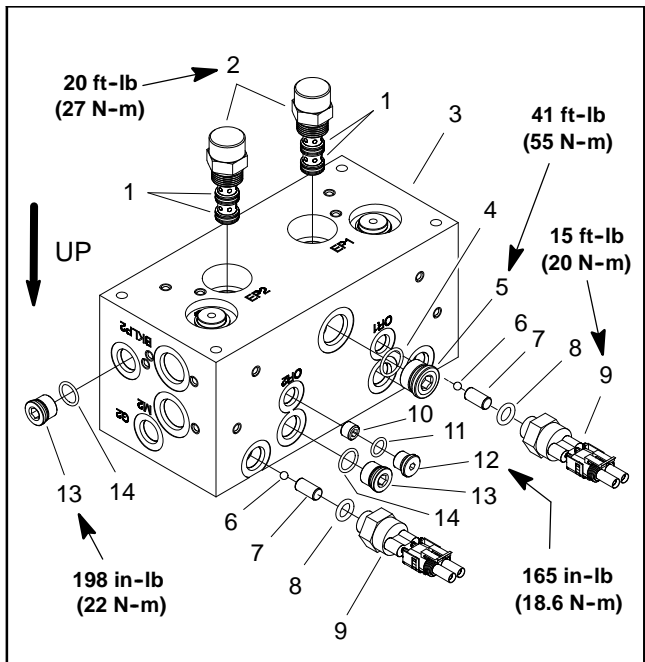

Figure 74
A. Remove backlap switch from mow manifold before removing mow/backlap spool (Fig. 74). Remove dowel pin and ball from manifold port after switch is removed. Remove and discard O-ring from switch.
F. Place ball and dowel pin in backlap switch manifold port (Fig. 74). Install new O-ring onto backlap switch. Thread backlap switch into port and torque **15 ft-lb (20 N-m)**.